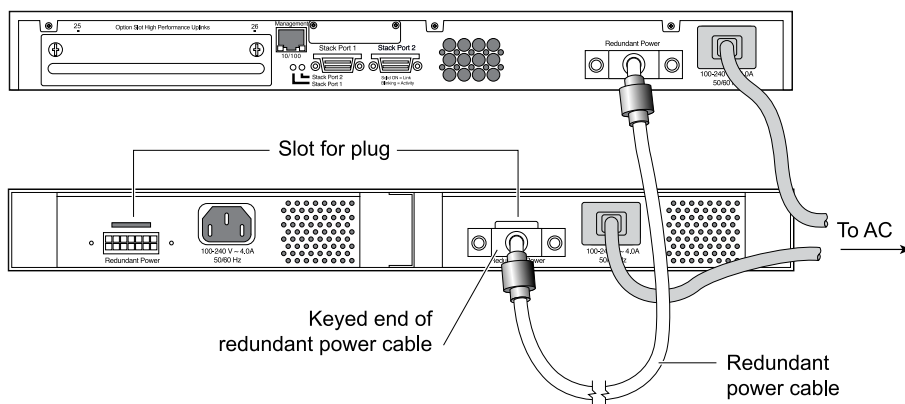

Figure 302: Redundant Power Connections
1. Connect the keyed end of the redundant power supply cord to the EPS-160 power supply (see Figure 302).
2. Connect the other end of the redundant power supply cord to the Extreme switch (see Figure 302). This connector end can only be inserted into the switch with the end marked TOP facing up.